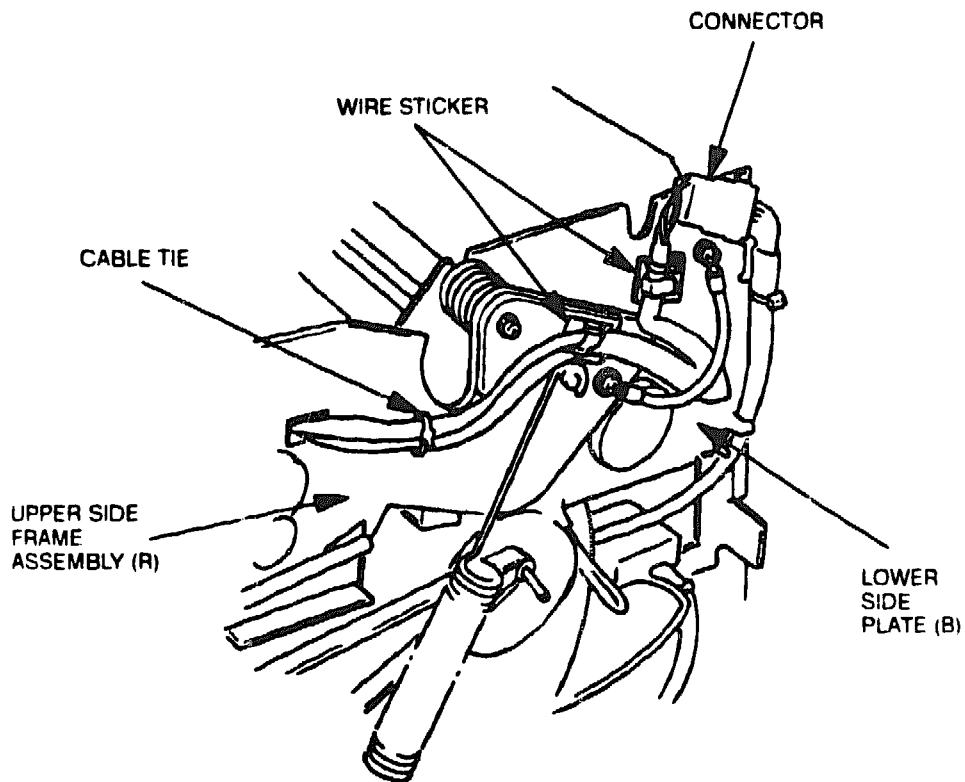

Figure 6-34 Paper Sensor Assembly Connector, Wire Stickers, and Cable Tie
9. Remove the cables from the wire stickers and cable ties on the upper side frame assembly (R) shown in Figure 6-34.
10. Unplug the connector and remove the cables from the wire sticker on the lower side plate (B) shown in Figure 6-34. Carefully pull the cables through the holes in the plate and upper side frame assembly (R) and remove the paper sensor assembly from the printer.